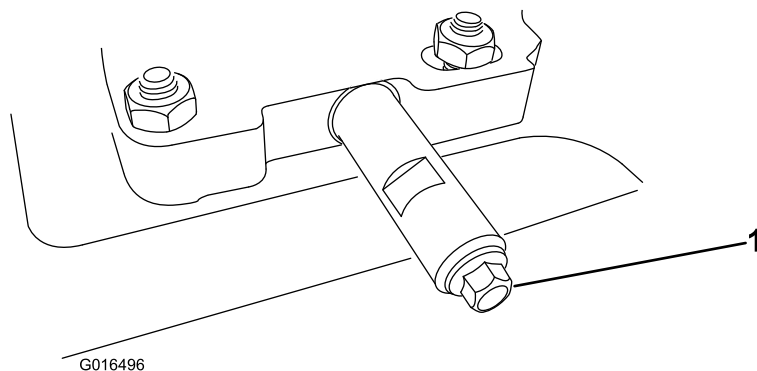

Figure 49
1. Clean the area around the oil-drain cap (Figure 49).